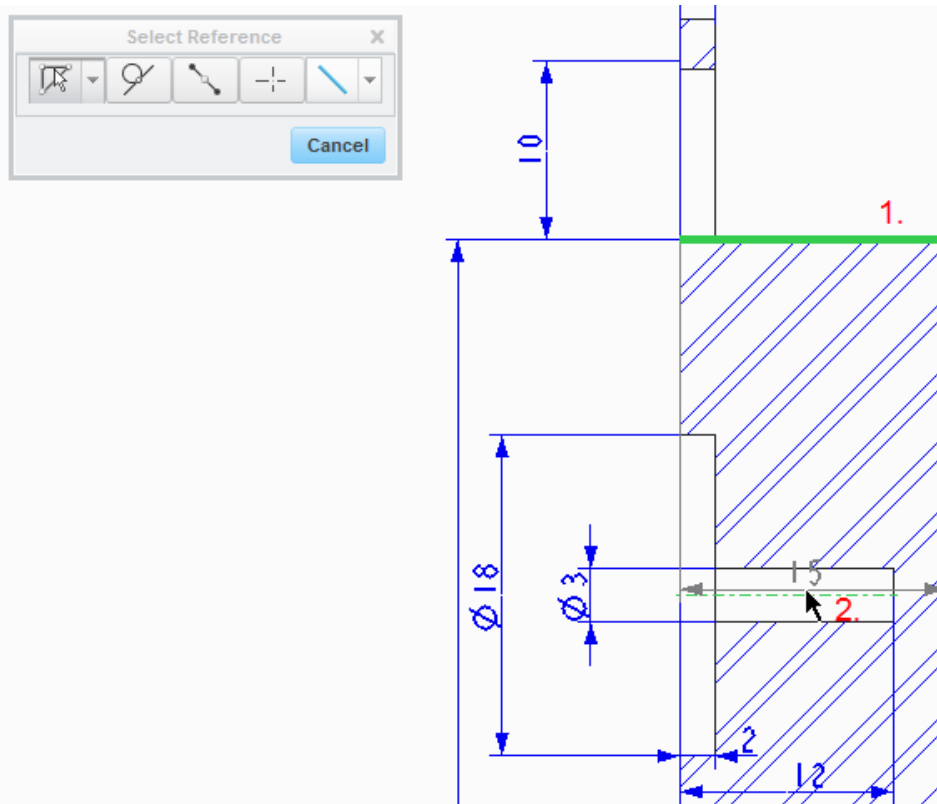

Figure 16: Line selected (1.) and holding CTRL selecting axis (2.).
1. You can use the **Dimension** tool ( from *Annotations* group) to create dimensions that are not based on dimensions in the model, but rather measurements. When creating dimensions, press CTRL to select additional references (Figure 16). Accept placement with **MMB**.